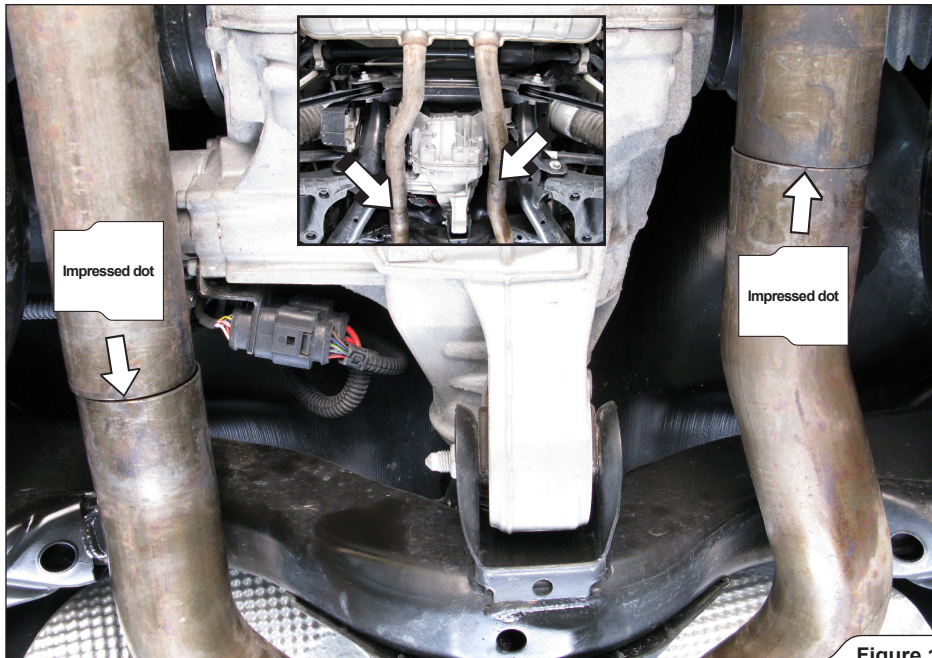

Figure 1
- 1. **For Turbo, Turbo S, S, V6 and Hybrid models only:** mark the stock muffler's inlet pipes exactly at the impressed dots. Carefully cut the pipes, using pipe cutting tool or equivalent (**Figure 1**).